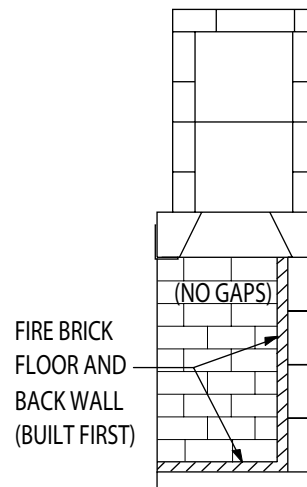

FIGURE 9
4. Next, apply fire brick to the back wall of the unit. The back wall fire brick covers the 1/2" expansion gap left at the brick floor along the back wall of the firebox. (Figure 9)